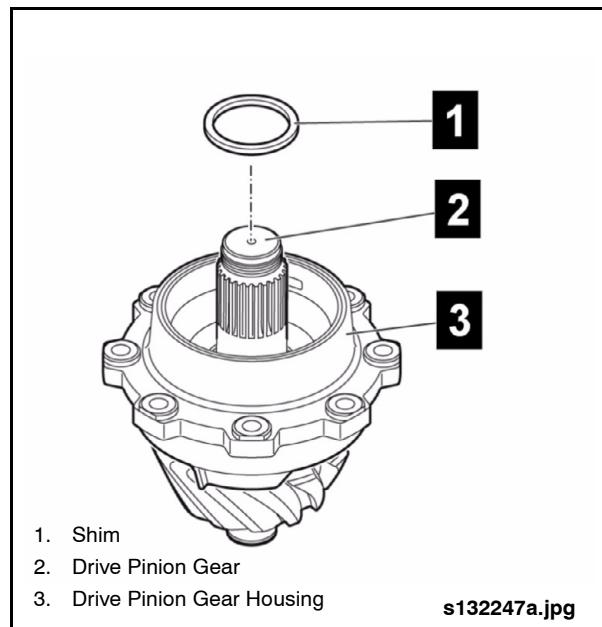

Fig. 2-100: Installing Drive Pinion Gear Housing
1. Install the drive pinion gear housing onto the drive pinion gear. See "Fig. 2-100: Installing Drive Pinion Gear Housing" on page 78.